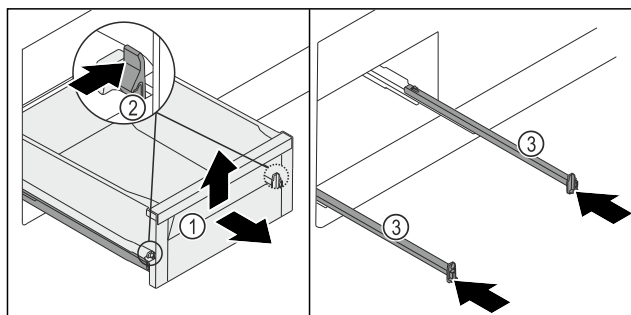

Fig. 123
- ▶ Pull out the drawer Fig. 123 (1) as far as it will go.
- ▶ Press the left and right clamp Fig. 123 (2) inward at the same time.
- ▶ The drawer Fig. 123 (1) is released from the rails.
- ▶ Lift up the drawer Fig. 123 (1) at the front.
- ▶ Remove the drawer Fig. 123 (1) from the front.
- ▶ Push in the rails Fig. 123 (3).